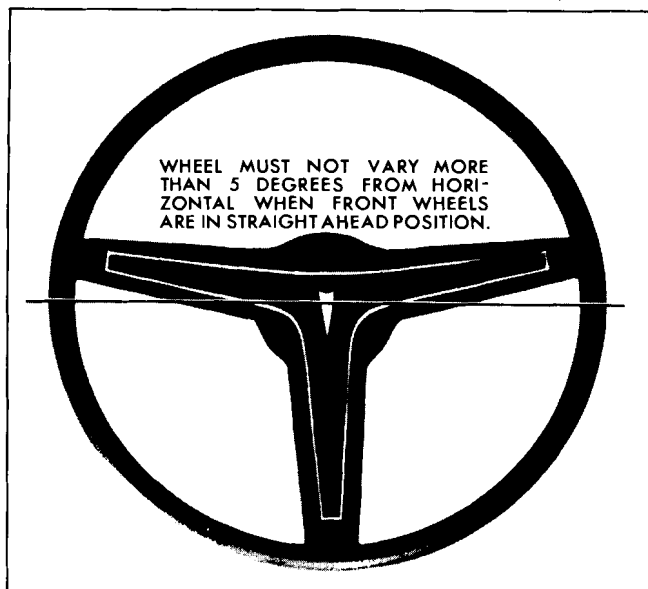

Fig. 9-21 Locating Steering Wheel Position
1. Install by reversing above steps, making sure steering wheel is in straight ahead position (Fig. 9-21). Tighten steering wheel nut to 30 lb. ft. torque.